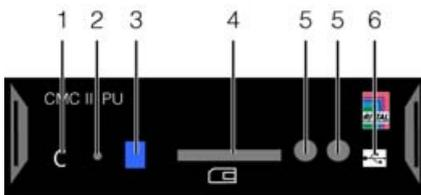

Fig. 51: Liquid Cooling Package control unit (CMC III PU) – front
In order to switch the device to normal operation (control operation), briefly press the "C" button (fig. 51, item 1) once.